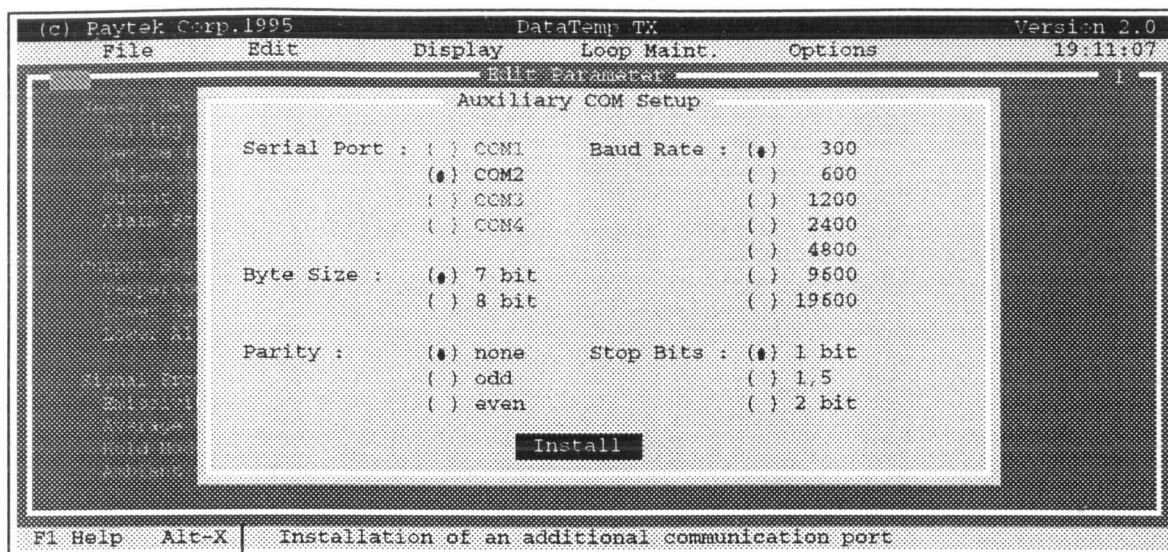

Fig. S-9 Auxiliary COM Setup
This program provides the possibility of using a second COM port for additional ASCII-based data transfer. If a free port is detected, it can be configured via this menu section. The Auxiliary COM port can be used for output and input separately. (Fig. S-9).
- Change to the transmitter side and install the correct parameters for the serial port (refer Fig. S-9).